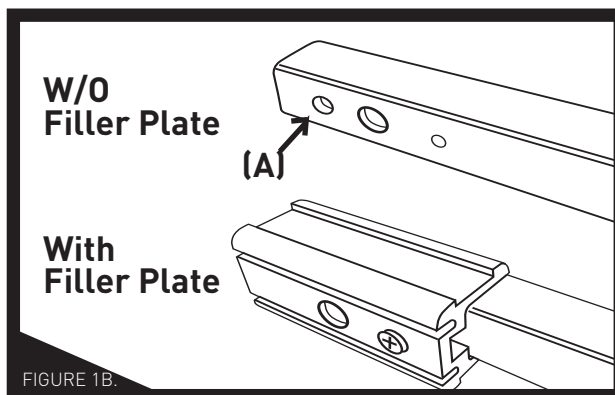

FIGURE 1B.
- Note on lining up the correct hole on the hitch insert: On the 2" hitch there is only one hole to line up, but on the 1 1/4" size hitch there are two possible holes on the hitch insert. For the rack to be properly tightened in the hitch it is important that you line up the middle hole on the hitch insert with the hole on your receiver hitch. **(Shown a hole "A" in the Drawing Figure 1B)** When lined up, the first hole on the rack's hitch insert should be undersized relative to the hole on the receiver hitch – this will allow the No Wobble Bolt to properly tighten the rack in the hitch.